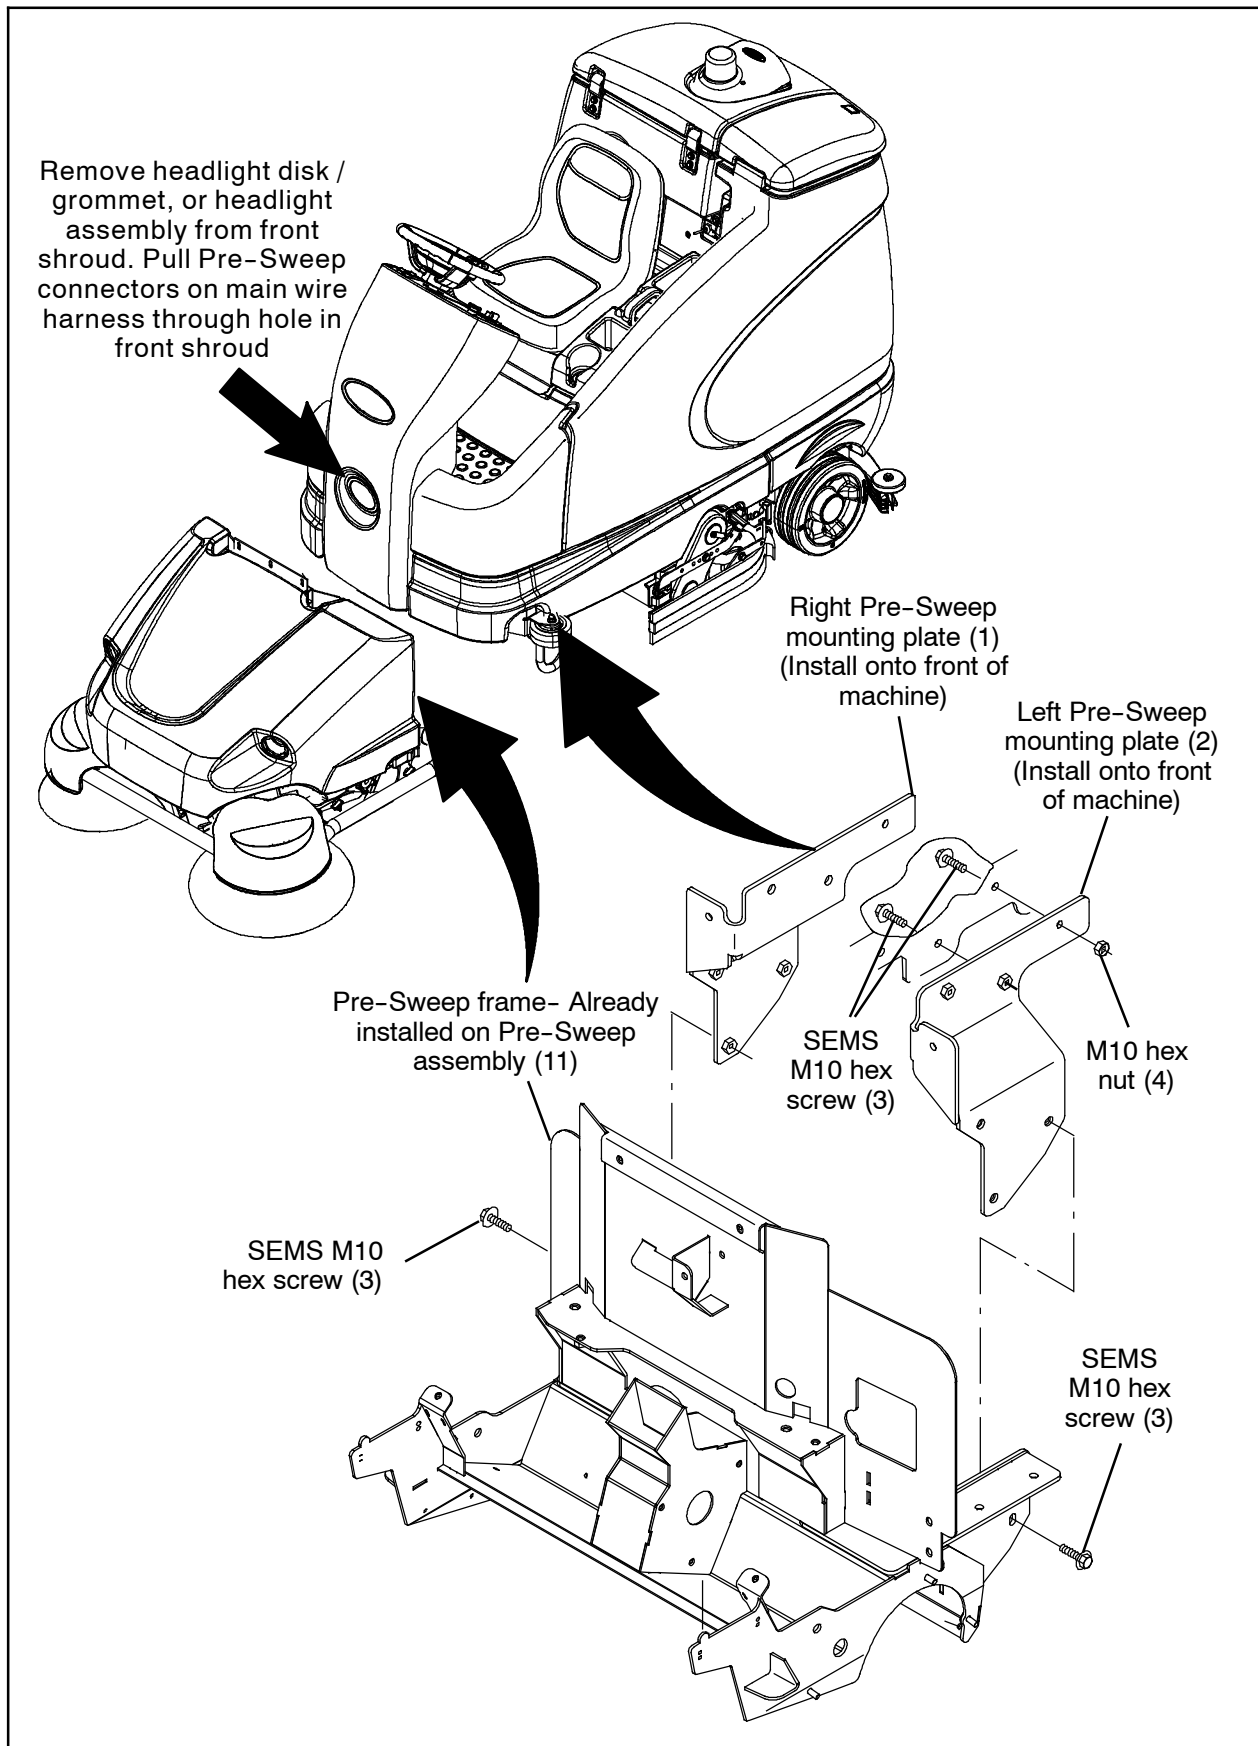

FIG. 1
1. Remove the head headlight disk and grommet from the front shroud. discard the headlight disk and grommet. Refer to Fig. 1.
Machines equipped with optional headlight only: Remove the headlight assembly from the front shroud. Discard the headlight assembly. Refer to Fig. 1.
2. Pull the main wire harness Pre-Sweep connectors through the hole in the front shroud where the light or disk were previously installed. (Fig. 1)
3. Use three SEMS M10 hex screws (3) and one M10 hex nut (4) to install the right Pre-Sweep mounting plate (1) to the frame of the machine. (Fig. 1)
4. Use three SEMS M10 hex screws (3) and one M10 hex nut (4) to install the left Pre-Sweep mounting plate (2) to the frame of the machine. (Fig. 1)
5. Position the Pre-Sweep assembly (11) near the front of the machine. (Fig. 1)
6. Connect the Pre-Sweep harness to the main wire harness. (Fig. 1 / Fig. 3)
7. Push the Pre-Sweep assembly (11) against the front of the machine.
8. Use six SEMS M10 hex screws (3) to install the Pre-Sweep assembly (11) onto the right and left Pre-Sweep mounting plates (1) (2) installed in the previous two steps. (Fig. 1)